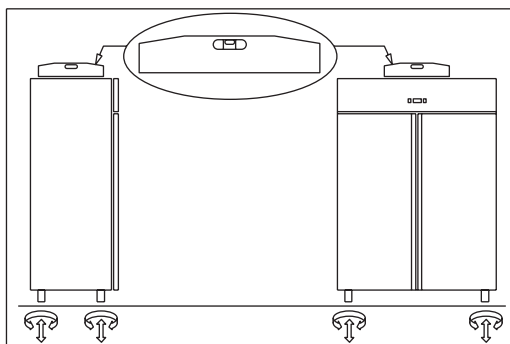

Fig.5
- position the refrigerated cabinet using a level with possible adjustment of the feet of the metal base (Fig. 5)